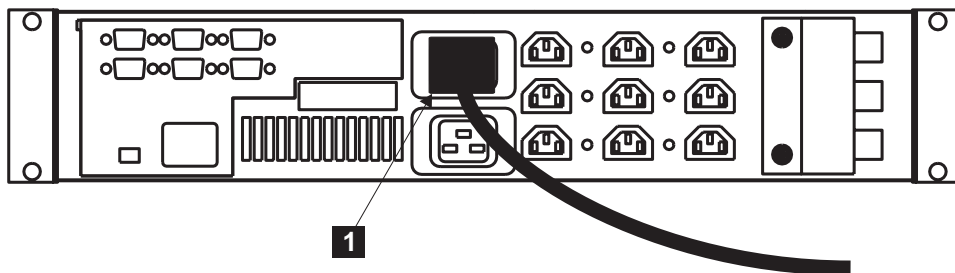

Figure 25. Installing the uninterruptible power supply power cable
8. At the back of the uninterruptible power supply, plug the uninterruptible power supply main power cable into the power socket (**1** in Figure 25).